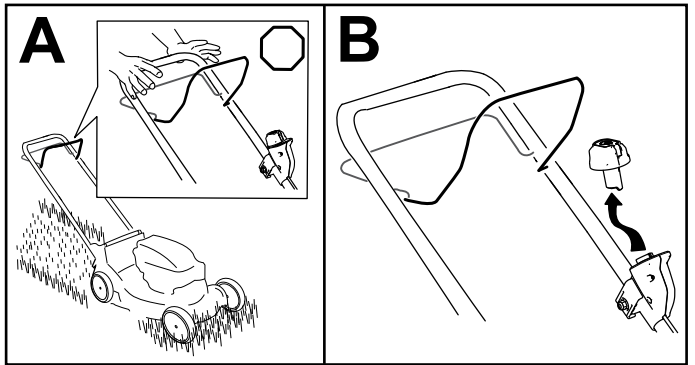

Figure 13
1. Release the blade-control bar (A of Figure 13).
2. Remove the electric-start button from the electric starter (B of Figure 13).